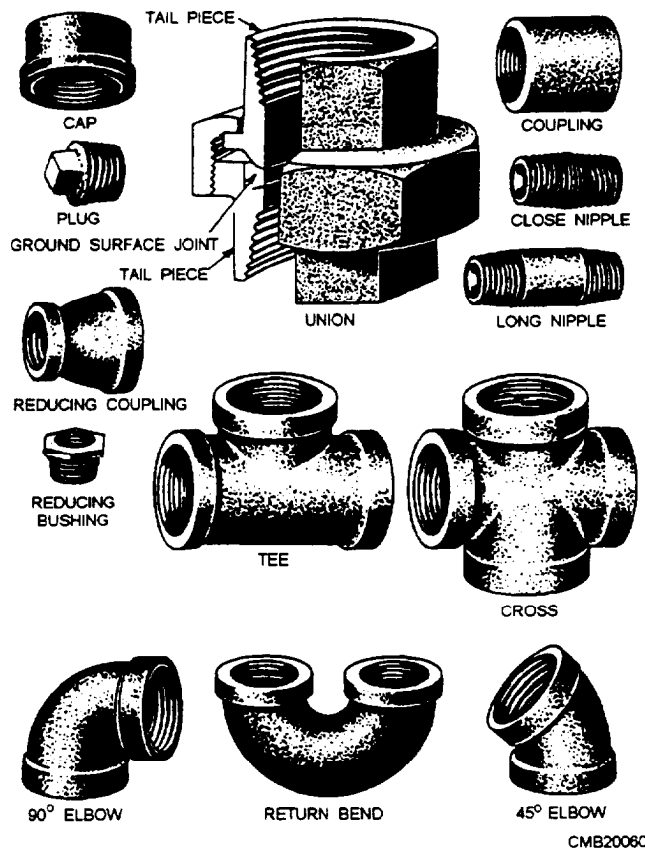

Figure 3-38.—Threaded pipe connectors.
**THREADED CONNECTORS.**—Threaded connectors (fig. 3-38) are used in low-pressure pipe systems. The connectors are made with standard pipe threads cut on the inside surface of the connector. The end of the pipe is threaded on the outside for connecting with the connector. Standard pipe threads are tapered slightly to ensure a tight connection.